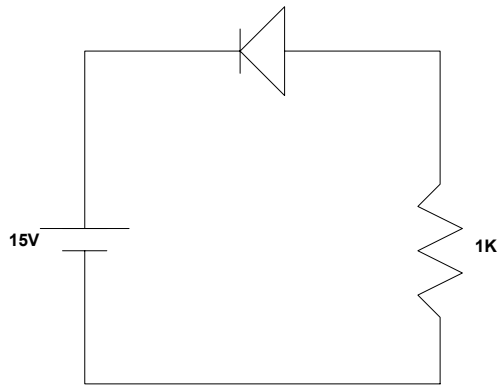

Figure 1
1. In figure 1, calculate the current flowing through the resistor (2 points)